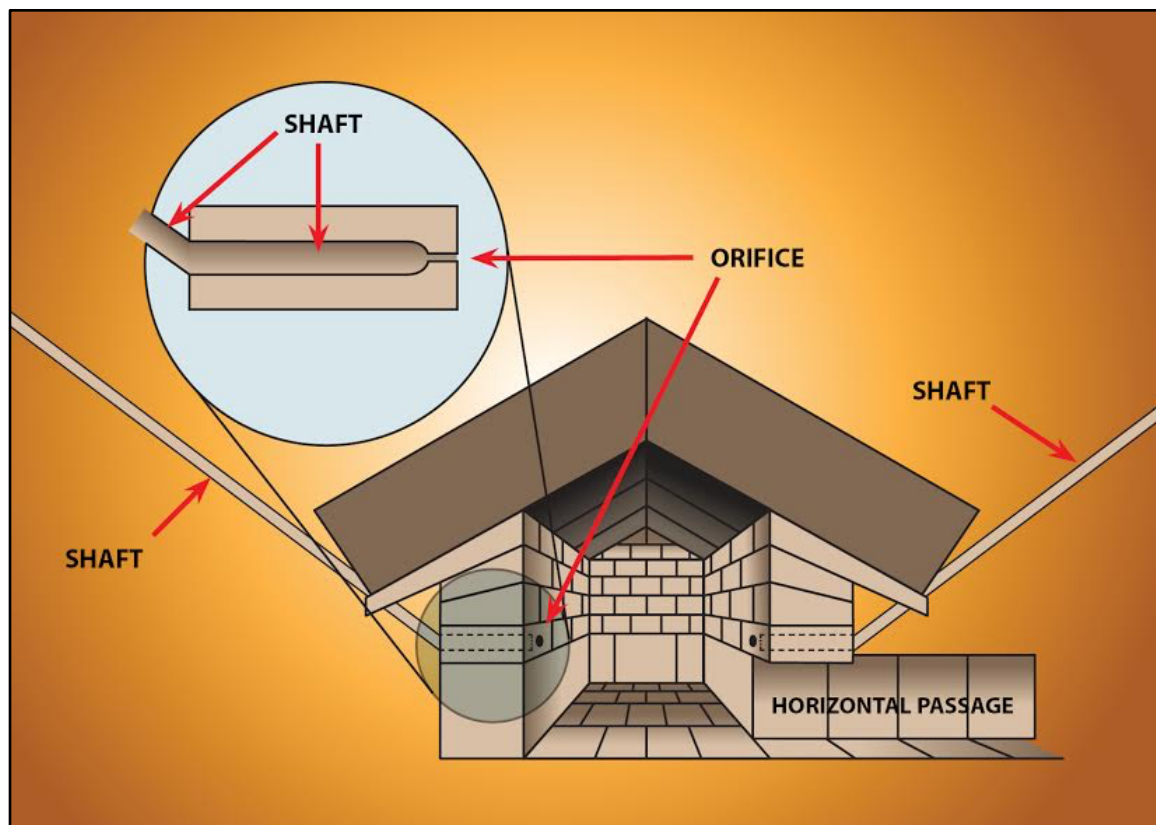

Figure 16. Queens Chamber
- Figure 16 illustrates the Southern Shaft entering the chamber by way of a *pre-determined orifice* that metered the correct amount of hydrochloric acid into the chamber. The same type of orifice was also discovered entering the Queens Chamber from the Northern Shaft. Remaining corrosion, discolorations, and stains supports the premise that the Southern Shaft was used for a dilute solution of hydrochloric acid and the Northern Shaft was used for the hydrated zinc chloride solution